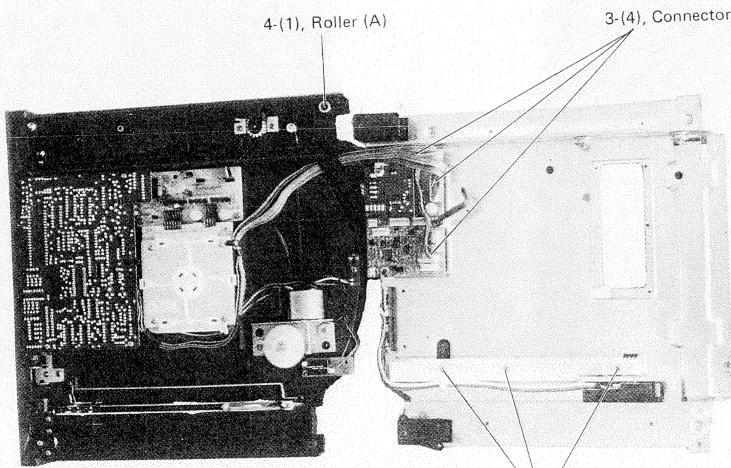
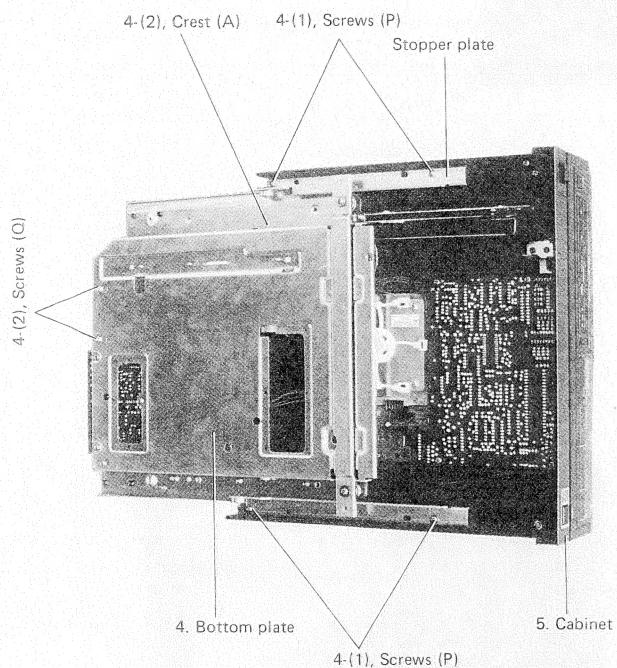

Fig. 8
Fig. 10
- (1) Dismount of stopper plate. (See fig. 8, 10)
- Follow to step 3-(6), remove 4 pcs. of screws (P) from bottom of cabinet so that stopper plate of left and right can be removed, and then roller (A) can be removed.
- (2) Dismount of power switch. (See fig. 10, 11)
- 1. Remove 2 pcs. of screws (Q) from bottom plate and clear the crest (A) provided with switch holder.
- 3. Remove 3 pcs. of screws (R) from rack (A) so that mechanism portion of power switch is removed. (See fig. 8, 11)